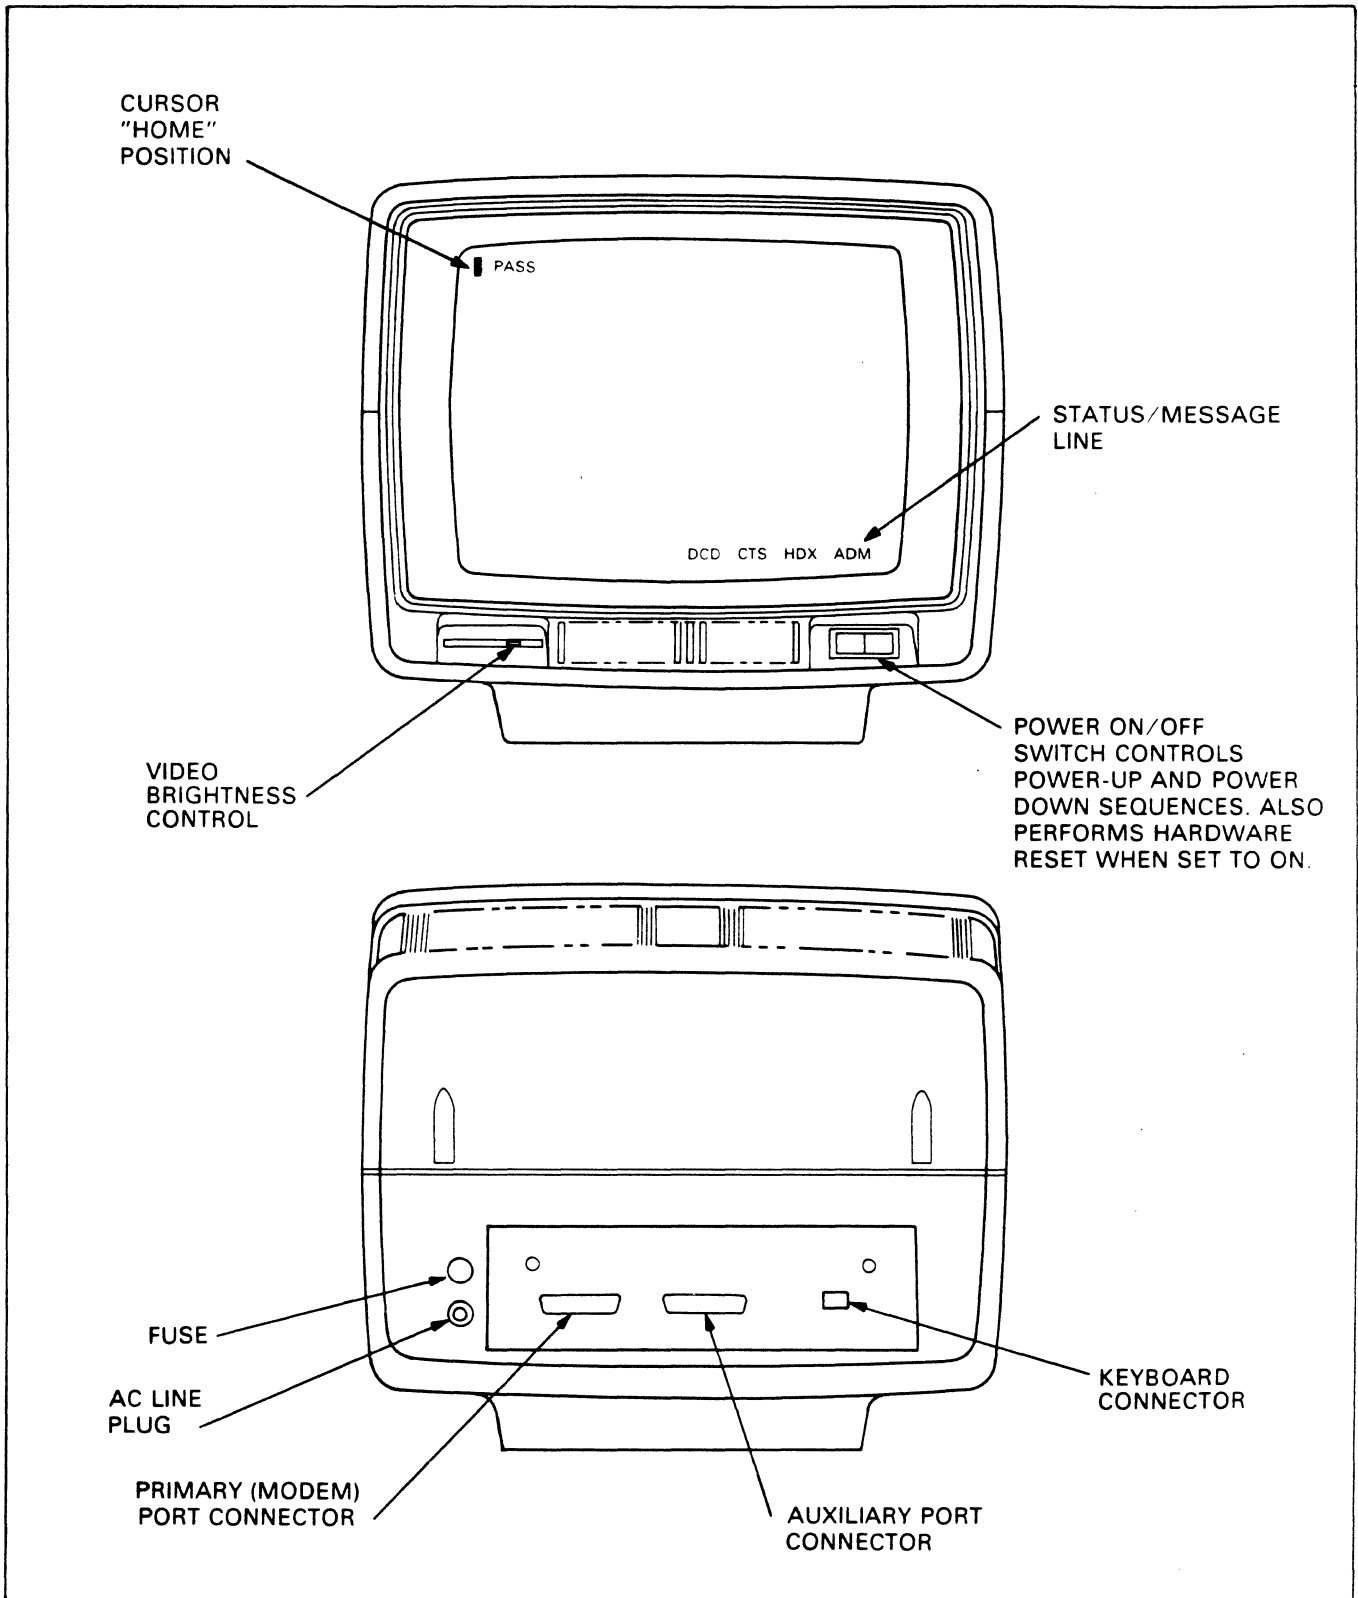
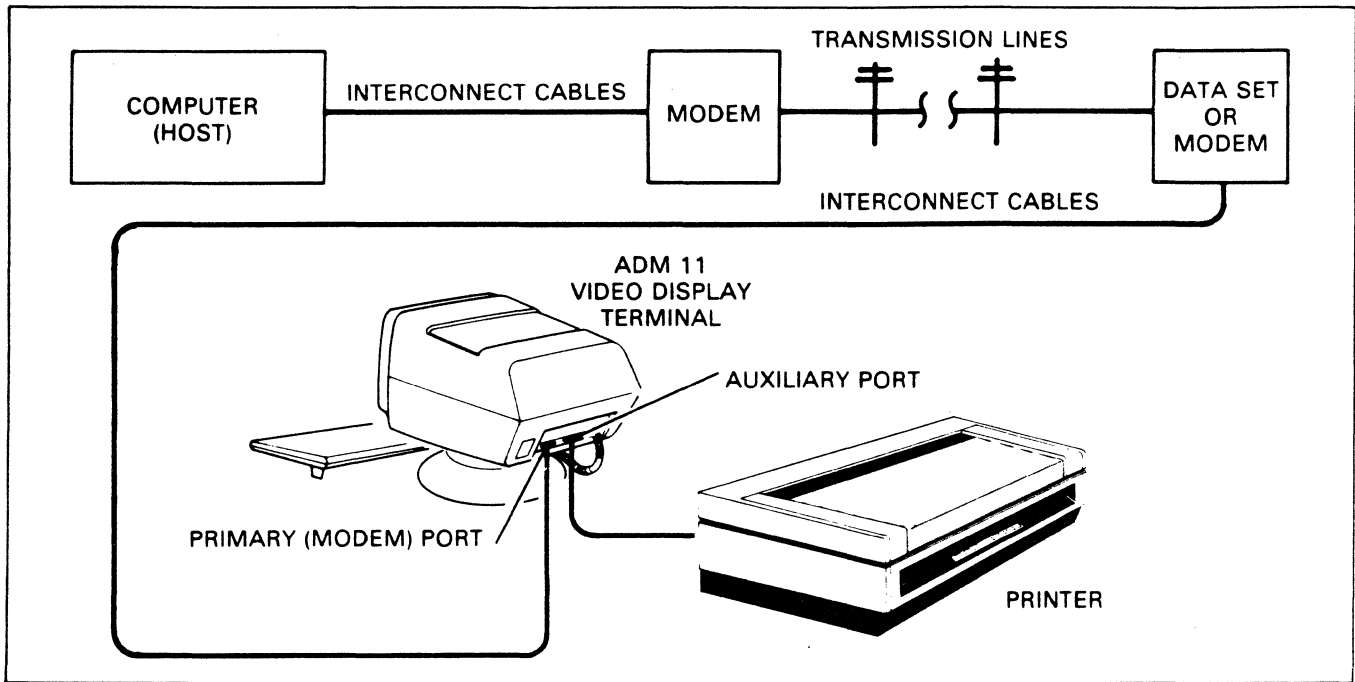
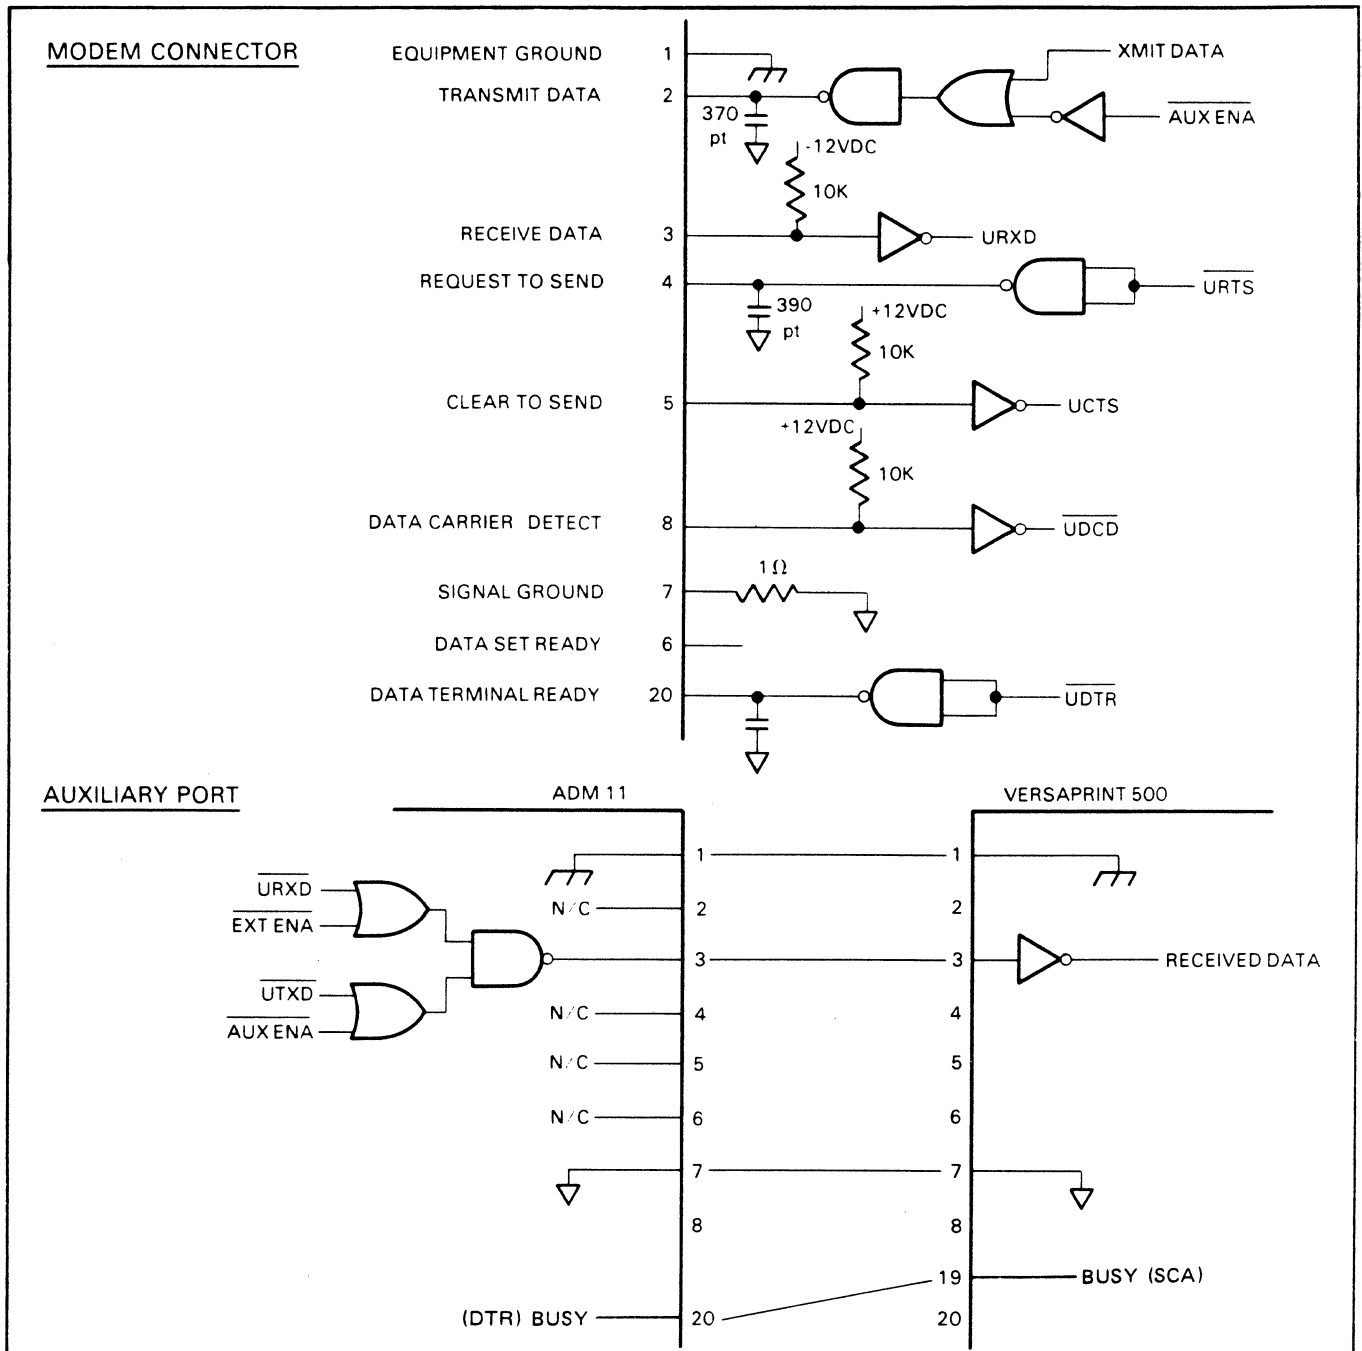

Figure 2-2. ADM 11 Controls and Connectors
Figure 2-3. Typical ADM 11 Applications
Figure 2-4. Modem Connector and Auxiliary Port
Before applying power to the terminal, plug the keyboard coil cord into the connector on the back of the monitor. Refer to **Figure 2-2, page 2-3.**
The ADM 11 may be connected directly to a local computer, serial printer or other auxiliary device. Or, using telephone lines, it may be connected to a remote computer. Remote computer connection requires use of a modem or data set. **Figure 2-3, on page 2-4,** shows a typical ADM 11 application. **Figure 2-2, page 2-3,** shows the locations of the rear panel of the interface connections. **Figures 2-4 and 2-5, pages 2-5 and 2-6,** shows the logic of these interfaces.
1. Check the ON/OFF switch on front of the monitor housing to be sure it is off. Refer to **Figure 2-2, page 2-3.**
1. Set the power switch on the front of the monitor housing to the ON position. Refer to **Figure 2-2, page 2-3.**
4. Adjust CONTRAST control for desired screen brightness. Refer to **Figure 2-2, page 2-3.** Moving the sliding lever toward the center of the monitor brightens the image. Moving it away from center decreases brightness. Begin adjustments with the lever in the middle position and move it either direction to achieve desired level.